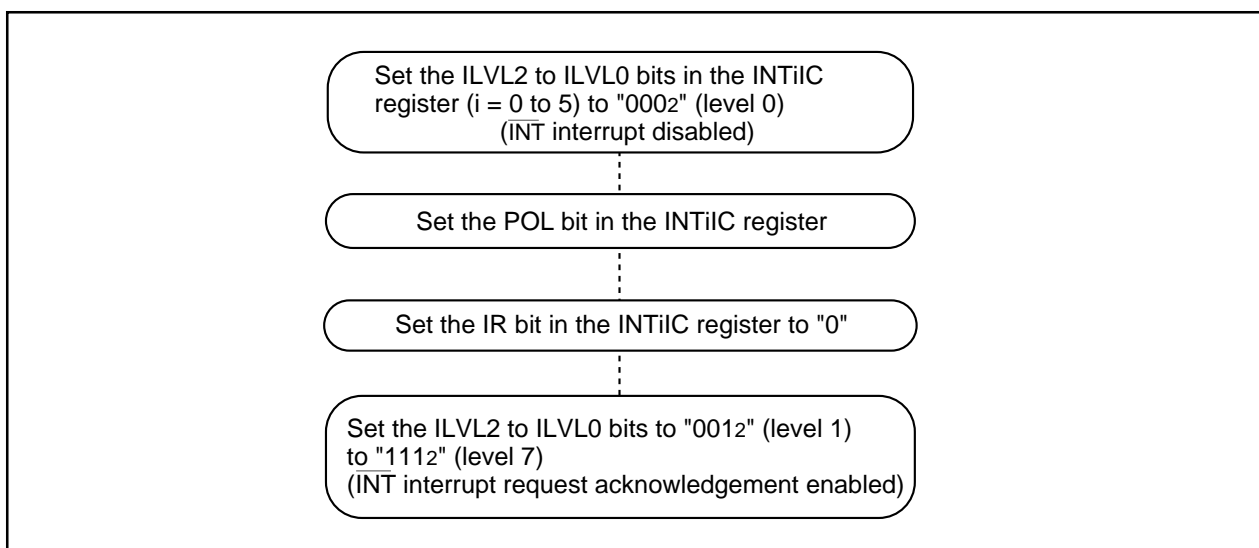

Figure 27.3 Switching Procedure for $\overline{\text{INT}}$ Interrupt
- The IR bit may change to "1" (interrupt requested) when switching the polarity of the $\overline{\text{INT}}0$ to $\overline{\text{INT}}5$ pins. Set the IR bit to "0" (no interrupt requested) after selecting the polarity. Figure 27.3 shows an example of the switching procedure for the $\overline{\text{INT}}$ interrupt.